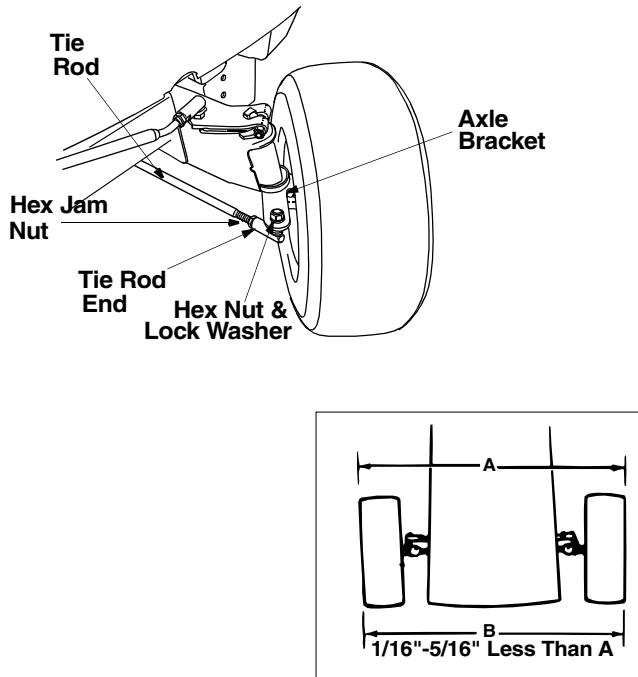

Figure 16
- Remove the hex nut and the lock washer, and drop the end of the tie rod from the axle bracket. See Figure 16 .
- Adjust the tie rod assembly for correct toe-in. Dimension B should be approximately 1/16"–5/16" less than Dimension A. See Figure 16 inset.
- To increase Dimension "B," screw tie rod into tie rod end. To decrease Dimension "B," unscrew tie rod from tie rod end. See Figure 16. Reassemble tie rod. Check dimensions. Readjust if necessary.